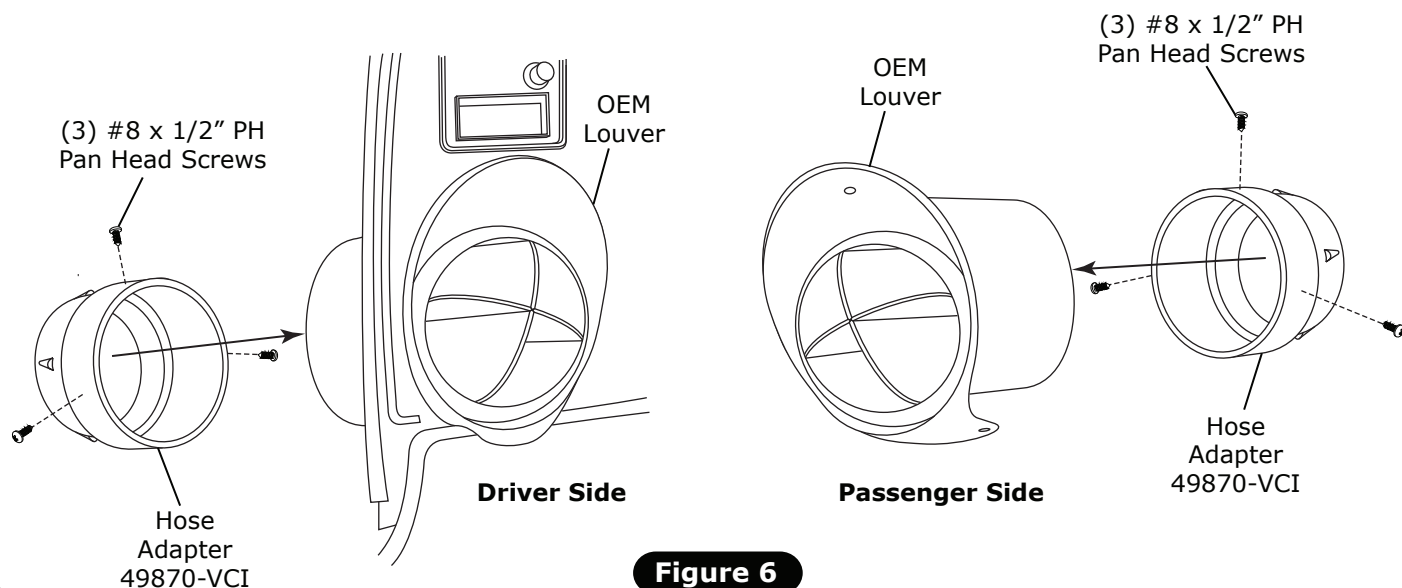

Figure 6
1. Install driver and passenger side hose adapters on OEM louvers, and secure using (3) #8 x 1/2" PH pan head screws (See Figure 6, below).